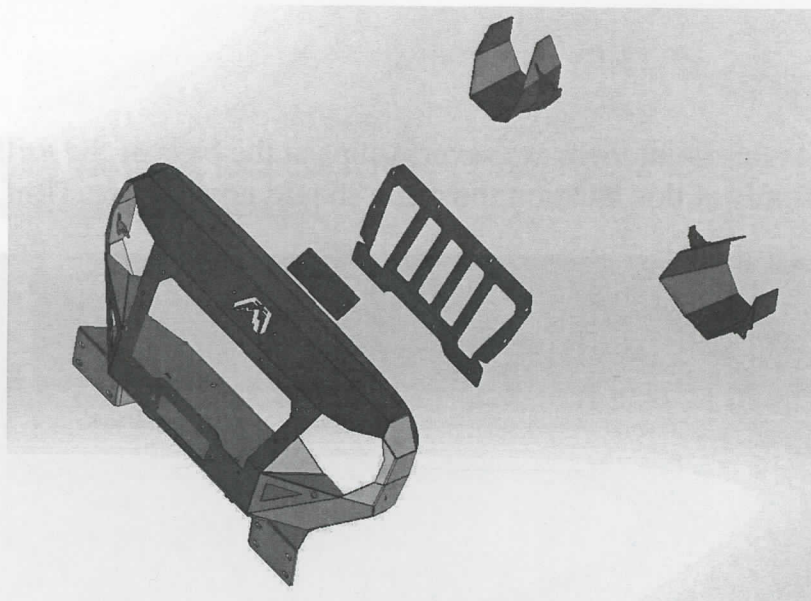

Figure 7
2. Using the 5/16" fasteners, install the headlight inserts, grille, and logo backer plates. (Ref. Figures 7 & 8)